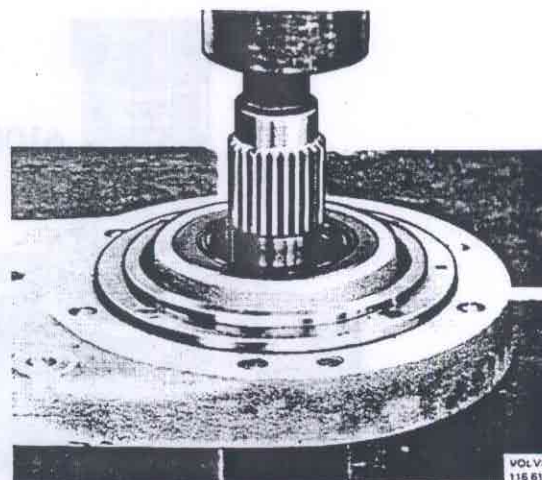

Fig. 48-18. Pressing out the shaft
6. Remove the circlip from the input shaft. Press out the shaft and bearing, see Fig. 48-18, from the housing.